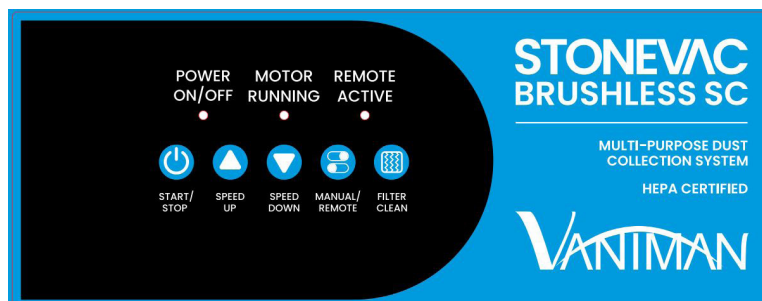

Fig. 15
6. Turn the StoneVac Mill Sync on by flipping the switch on the rear of the unit to the "ON" position, then press the "MANUAL/REMOTE" button on the front panel (Fig. 15). Now your StoneVac Mill Sync is properly connected and ready to run along with your IMES milling machine.